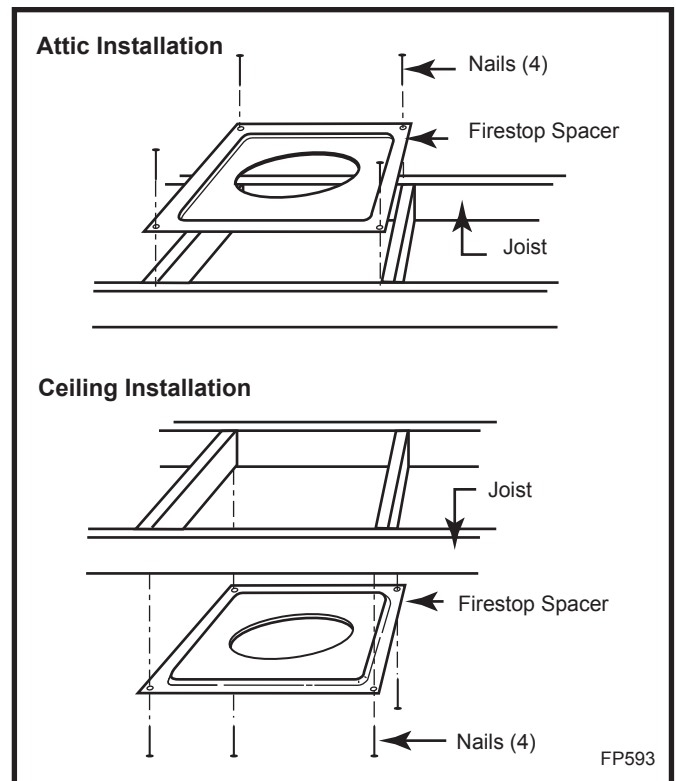

Fig. 34 Installing firestop spacer.
6. Place firestop(s) SKFS2A or Attic Insulation Shield AIS-SK into position and secure. (Figs. 34, 35)
7. Install roof support (Fig. 34) and roof flashing making sure upper flange of flashing is below the shingles.